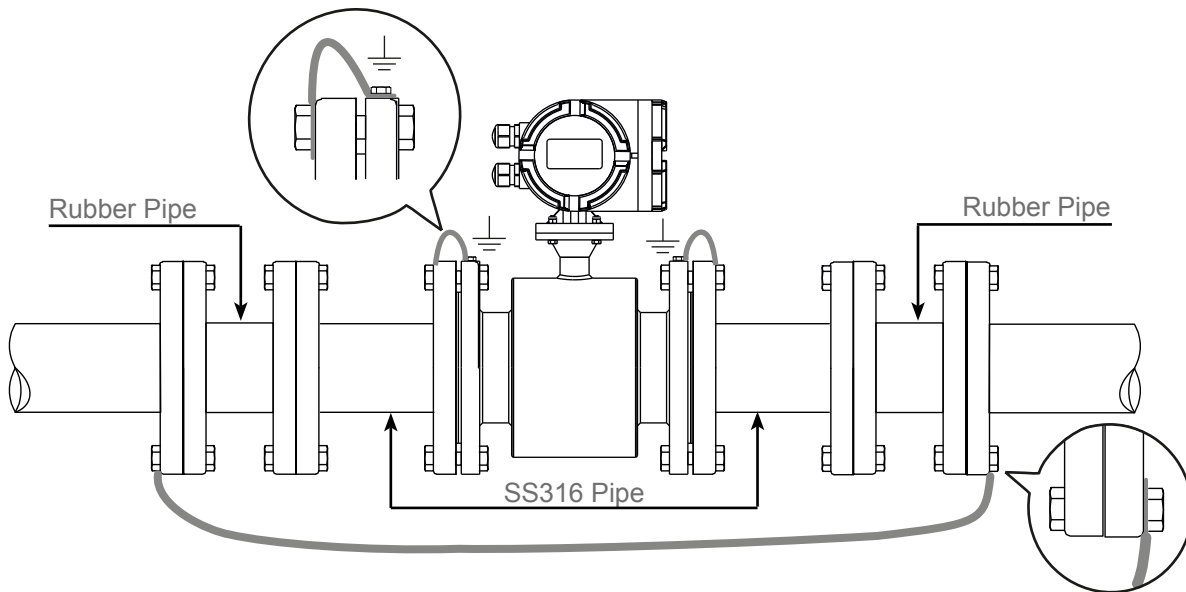

Fig.19A Pipe segmentation
c) Some systems, such as pipes with cathodic protection, may be affected by potential disturbance because not all the line is at ground potential. In order to eliminate this type of interference, it must be isolate the line with two rubber pipes as shown in **Fig.19A**.